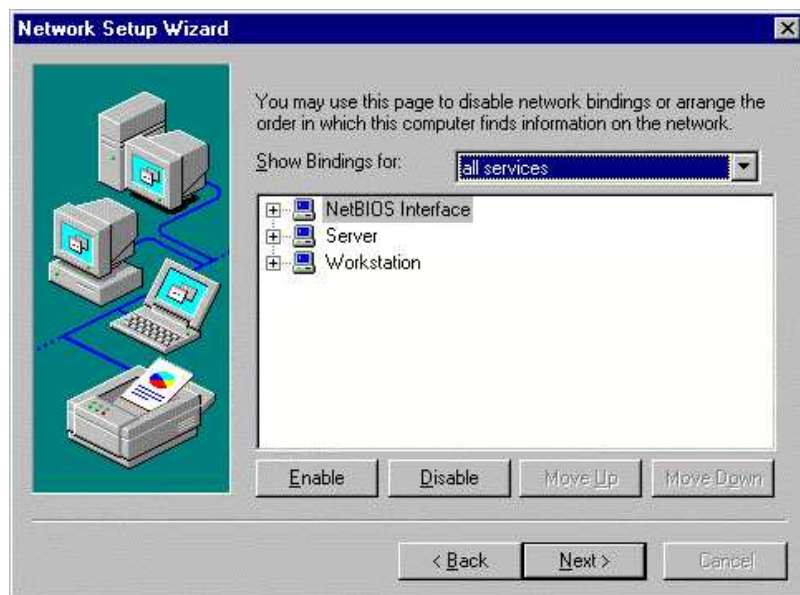

Fig. 8-16
- ▶ No changes are made in the Network Linkings dialog box (Fig. 8-16). Select "Next" to confirm.